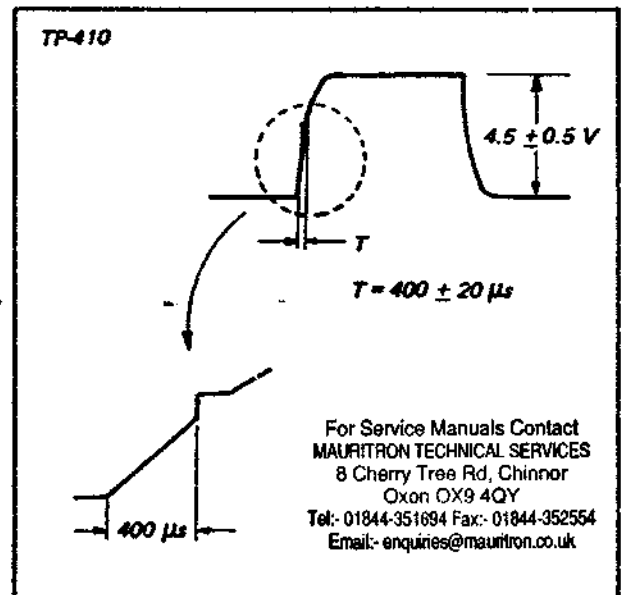

Fig. 6-4. Lock phase adjustment (REC/E-E mode)
See Fig. 6-4.
4. Adjust the POSITION control on the scope to observe the interval "T" in Fig. 6-4.